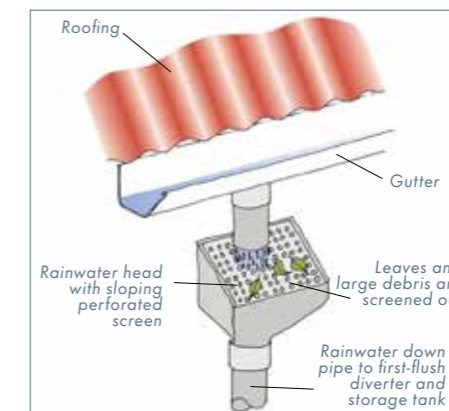

Figure 2 - Leaf screen for down pipes
- Install leaf screens to downpipes (Figure 2).